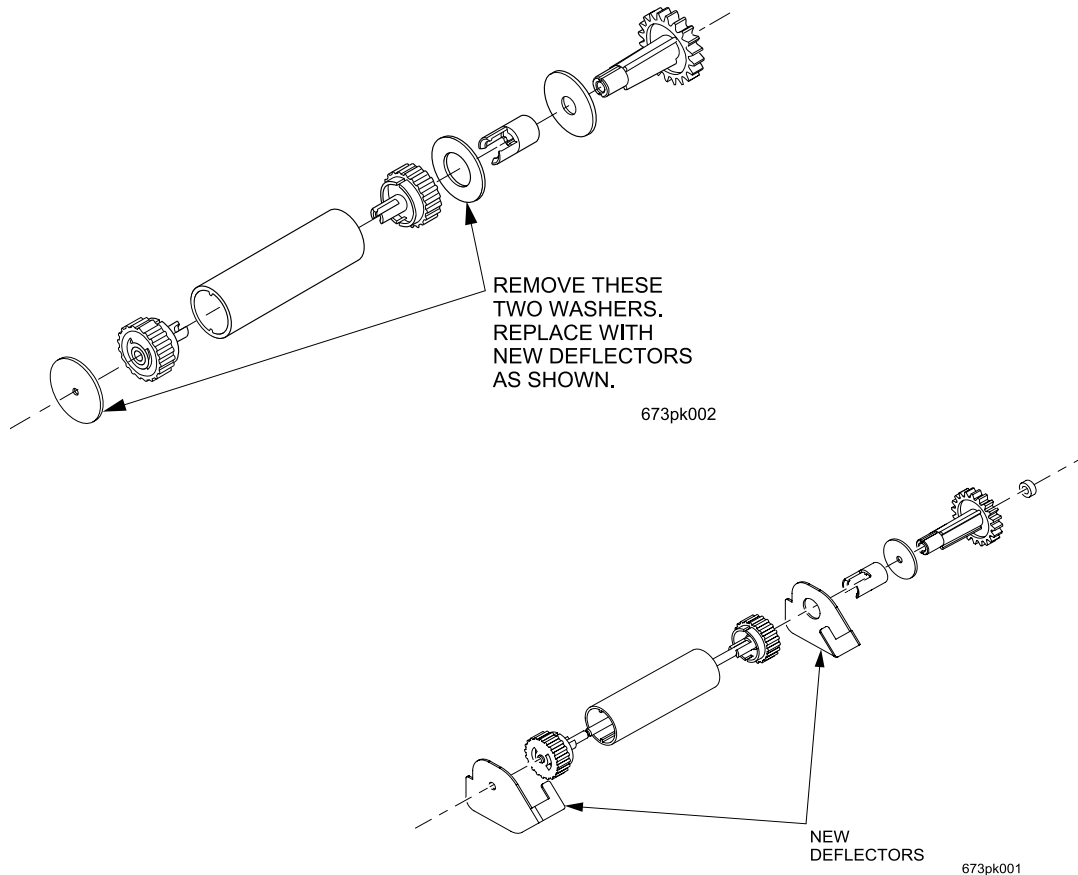

Figure 8
9. Disassemble the assembly by removing and replacing the right washer (ref. large hole) with the right hand Deflector p/n #6734078. (Figure 8). Remove and replace the left hand washer (ref. small hole) with the left hand Deflector p/n #6734077. Discard removed washers.